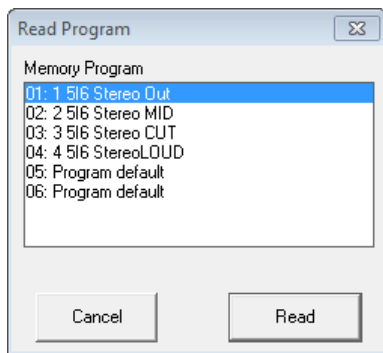

Fig. 35 Window "Read Program"
- 1) On the upper right of the window, click the button "Read". The dialog window "Read Program" is displayed (fig. 35).